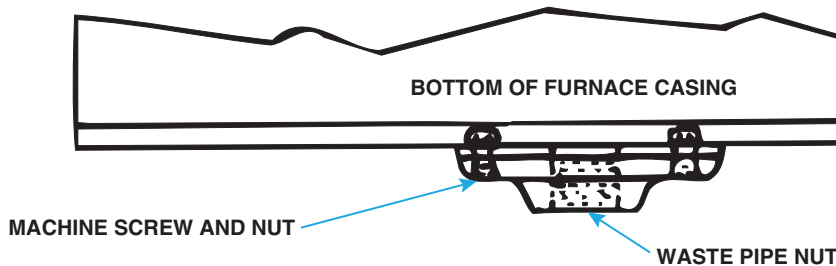

Figure 12. Condensate Drain
1. Install drain flange in bottom of furnace casing as shown in **Figure 12** and secure using two machine screws (#10-32 x 1-inch-long) and nuts.